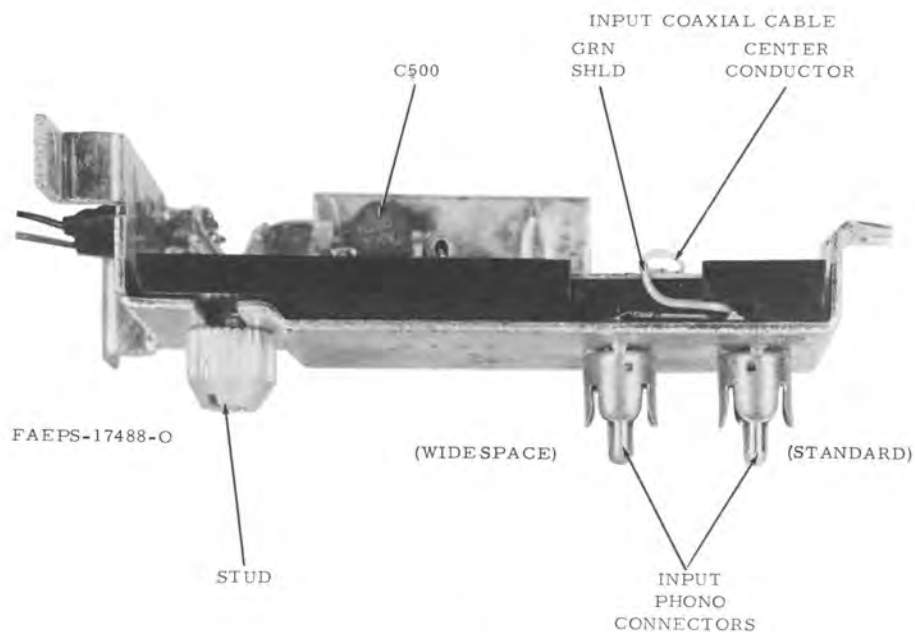

Figure 15.
Step 1. Place the transistor on the microstrip. Position the device as shown in Figure 15.